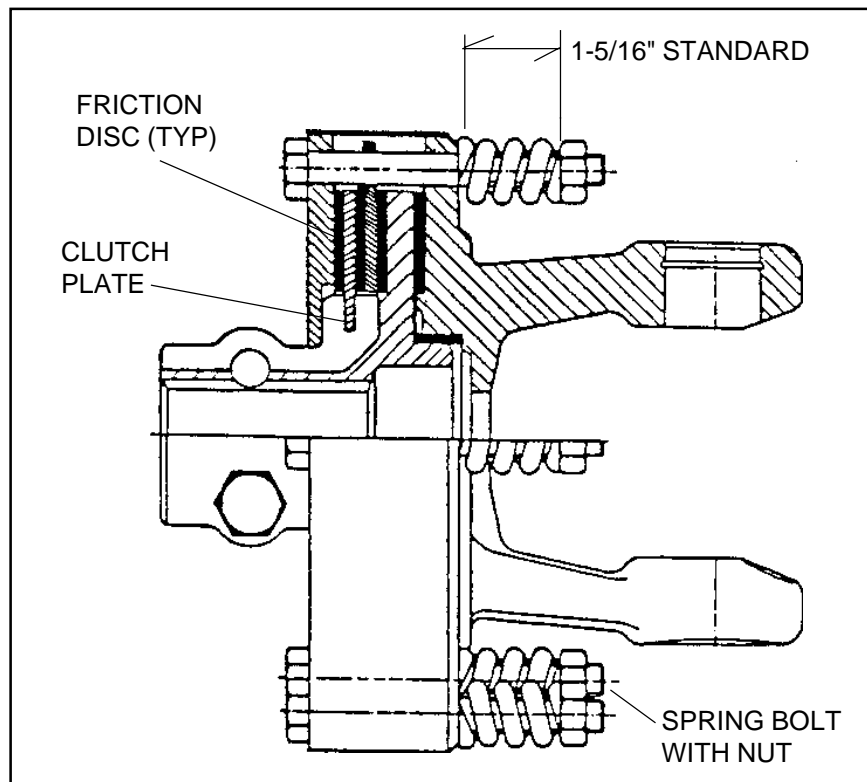

FIGURE 8. Slip Clutch Maintenance
1. Loosen nuts (1) **Figure 8** until the spring is free, and then retighten approximately one turn.